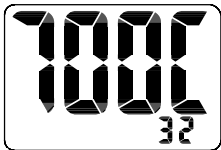

FIGURE 5: EASY CALIBRATION SCREEN
When using Easy Calibration Mode, the SpeedZone will display the tire size on its LCD display screen. (See figure 5) The Easy Calibration Mode is accessed by entering the odometer (OD) mode and holding down the "FUNCTION" button for three seconds. The display will now show the currently selected tire size. To scroll through the